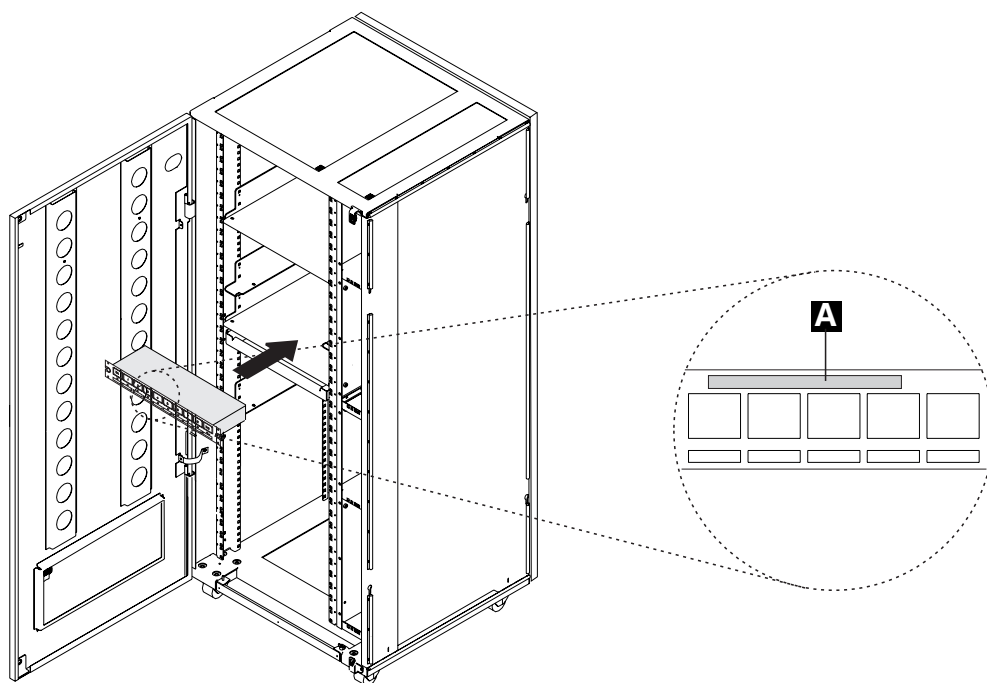

Figure 23. Installing the 8228 (Controller Expansion Rear side)
- \_\_\_ 4. Identify the 8228 as Service Processor Access Unit, Using label **A** (PN 0782966). See Figure 23.